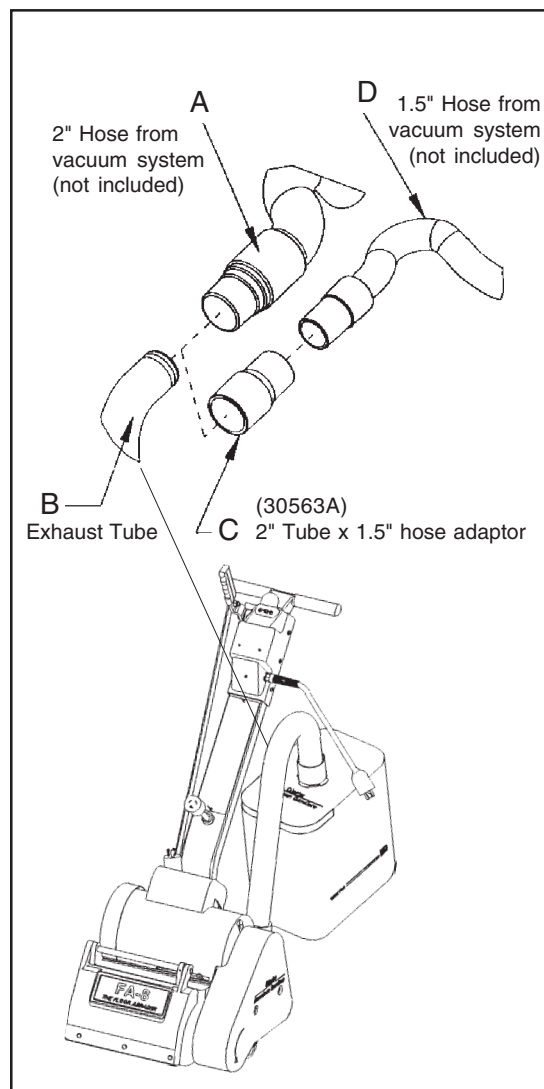

Figure 2
1. Install 2" hose end (figure 2, A) directly over the exhaust tube (figure 2, B).
1. Install the 2" x 1½" hose end adaptor (Part No. 30563A) (figure 2, C) over the exhaust tube (figure 2, B).
2. Insert 1 ½" hose end (figure 2, D) into the adaptor (figure 2, C).